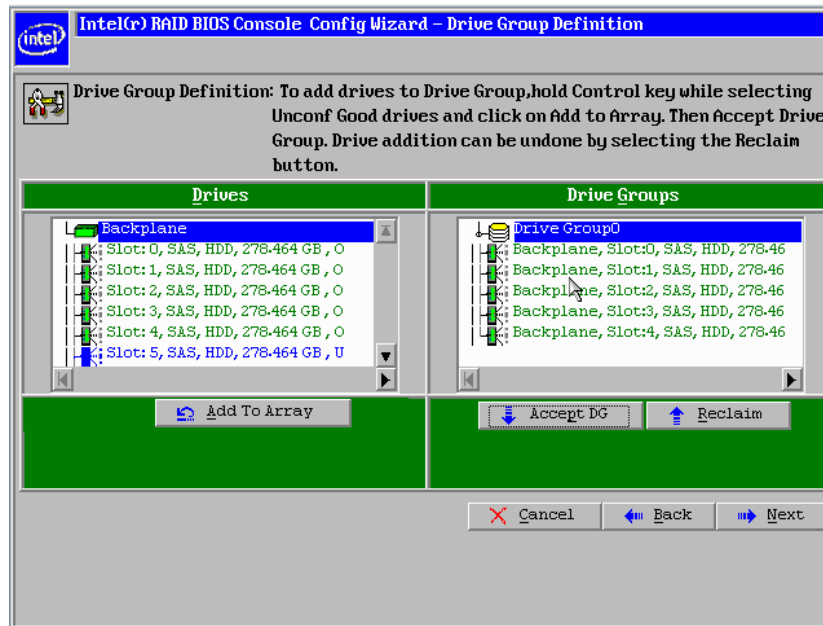

Figure 16. Intel® RAID BIOS Console 2 Configuration Wizard – drive group definition
4. In the Drive Group (DG) Definition screen (Figure 16), hold down the <Ctrl> key and select each drive to include in the drive group. See section 2.2 for information on the required minimum number of drives.